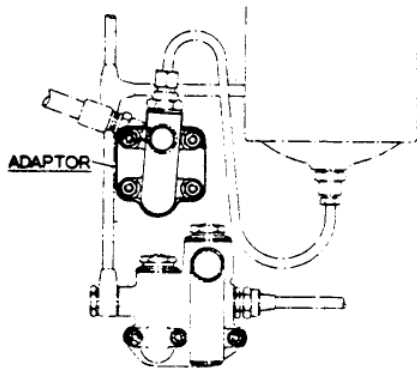
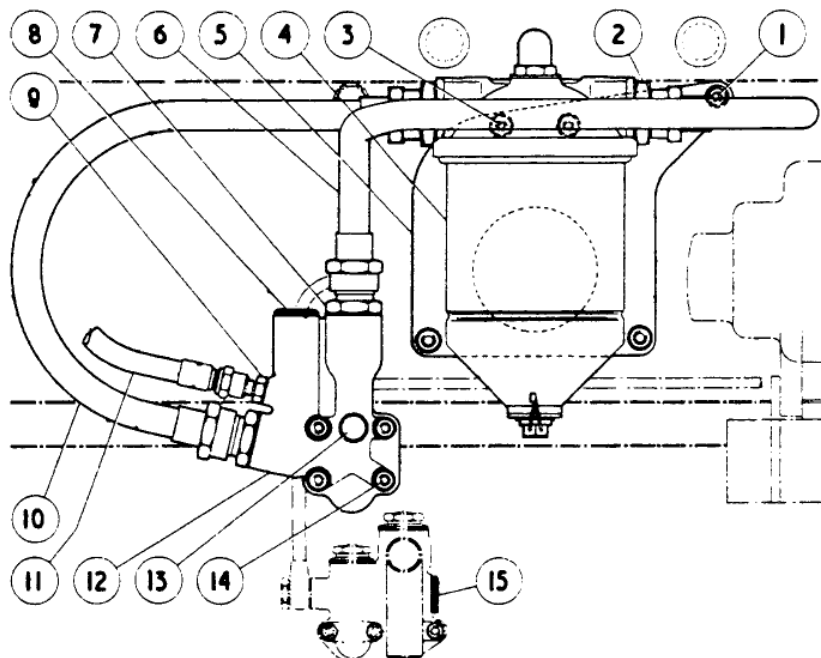

FIG.1. ADAPTOR-OIL FEED (EARLIER TYPE)
FIG. 3. FRONT ELEVATION - FULL FLOW OIL FILTER.
The crankcase casting was altered for this purpose, the vertical passage to the gallery being diverted to the lower orifice of a new "external" facing approximately 3"(76mm) above the oil relief valve unit; the upper orifice in this facing communicating with the gallery. The pipes leading to and from the Vokes filter, and also the oil pressure gauge pipe, are connected to an adaptor mounted on the facing. Fig.3 illustrates the external layout, but depicts a Vokes E-62 filter (centre bolt lid fixing) which is now used instead of the E-30 type (six bolt lid fixing).
SCHEME 'A' conforms to the layout shown in Fig.3, and is relatively simple in installation, being confined to external alteration only. It can be applied to engines, the crankcase of which have the adaptor facing referred to above. Generally speaking, this modification to the crankcase was first introduced at the commencement of 'H' series to provide a means of employing full flow filtration on unit test, and in anticipation of the scheme becoming standardised later. Crankcases of this type may be recognised by reference to Figs. 1 & 2, which show special adaptors used in conjunction with the original By-Pass Filters.
3. INSTRUCTIONS FOR FITTING: (REFER TO FIG.3)
Having removed the induction pipe, the existing By-Pass filter, adaptor (Fig.1 or 2), the connecting pipes and the oil relief valve unit, proceed as follows:-